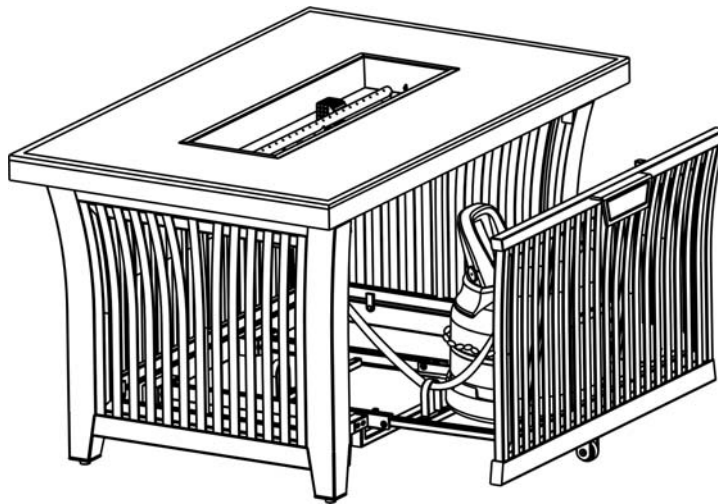

Figure 6
5. Slide the tank drawer out, place the LP tank (not provided) in the drawer and secure it with the chain as shown in Figure 6. With the BLACK lever in the “down/off” position as shown in Figure 7, firmly push the regulator onto the tank valve. To open the valve, lift the BLACK lever and turn the handle 90° clockwise to the “ON” position. See Figure 8. Apply a solution of soapy water to the tank-regulator connection and to the valve-hose connection to check for leaks. If soap bubbles continue to form, the connection has a leak. If a leak is found, close the tank valve and tighten all connections. **NEVER USE A FLAME TO CHECK FOR LEAKS.** In case of gas leakage; for instance, in the event of gas leakage, the appliance shall not be used or if alight, the gas supply shall be shut off and the appliance shall be investigated and rectified before it is used again. To remove the regulator, turn the Black Lever counterclockwise and press straight in. See Figure 9.